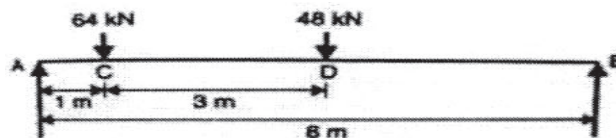

Figure 4
- b)** A simply supported beam of 8 m length is loaded as shown in figure 4. Find deflection under each load. Take $E = 210 \text{ GPa}$ and $I = 180 \times 10^6 \text{ mm}^4$. [8]